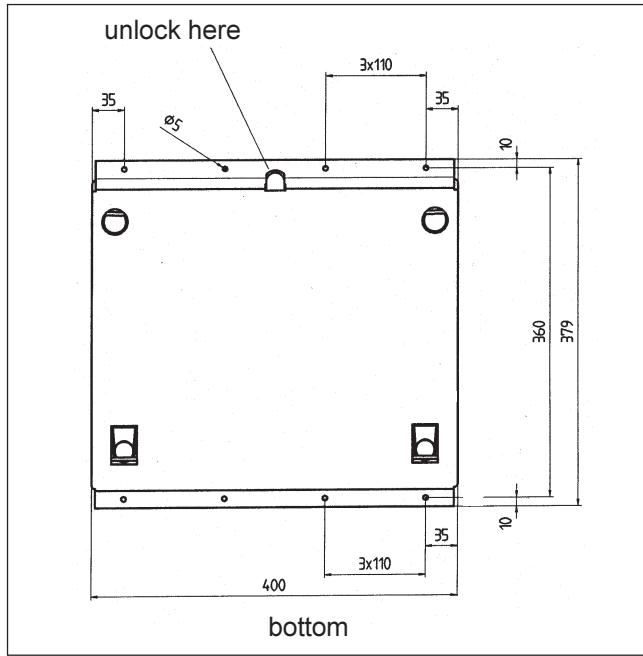

Figure 1
- \* The mounting system has 4 bore holes both at the top and bottom edges, allowing it to be mounted to the ambulance in a vertical or horizontal position (take care that the mounting system is flush against the wall of ambulance; in the vertical position the wider part with the cable aperture must face down!) (see Fig. 1).